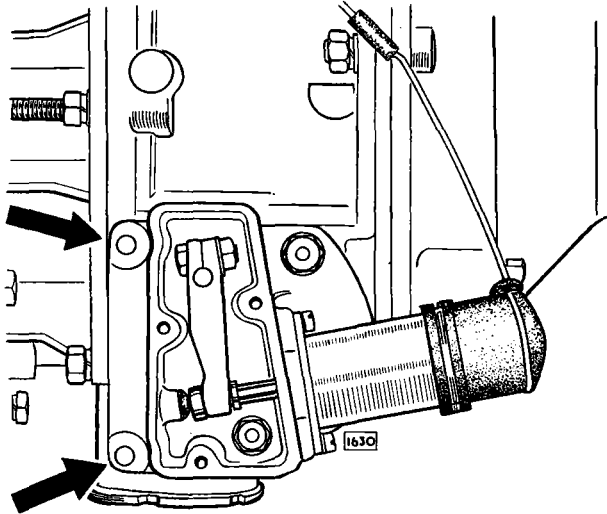

Fig. 35. Removing the solenoid bracket—remove the nuts from the studs before unscrewing the two setscrews.
6. The solenoid bracket is secured by two $\frac{5}{16}$ " (7.94 mm.) diameter studs and two $\frac{5}{16}$ " (7.94 mm.) diameter bolts, the heads of which are painted red (see Fig. 35). REMOVE THE NUTS FROM THE STUDS BEFORE TOUCHING THE BOLTS. THIS IS IMPORTANT. The two bolts should now be slacked off together, releasing the tension on the accumulator spring.